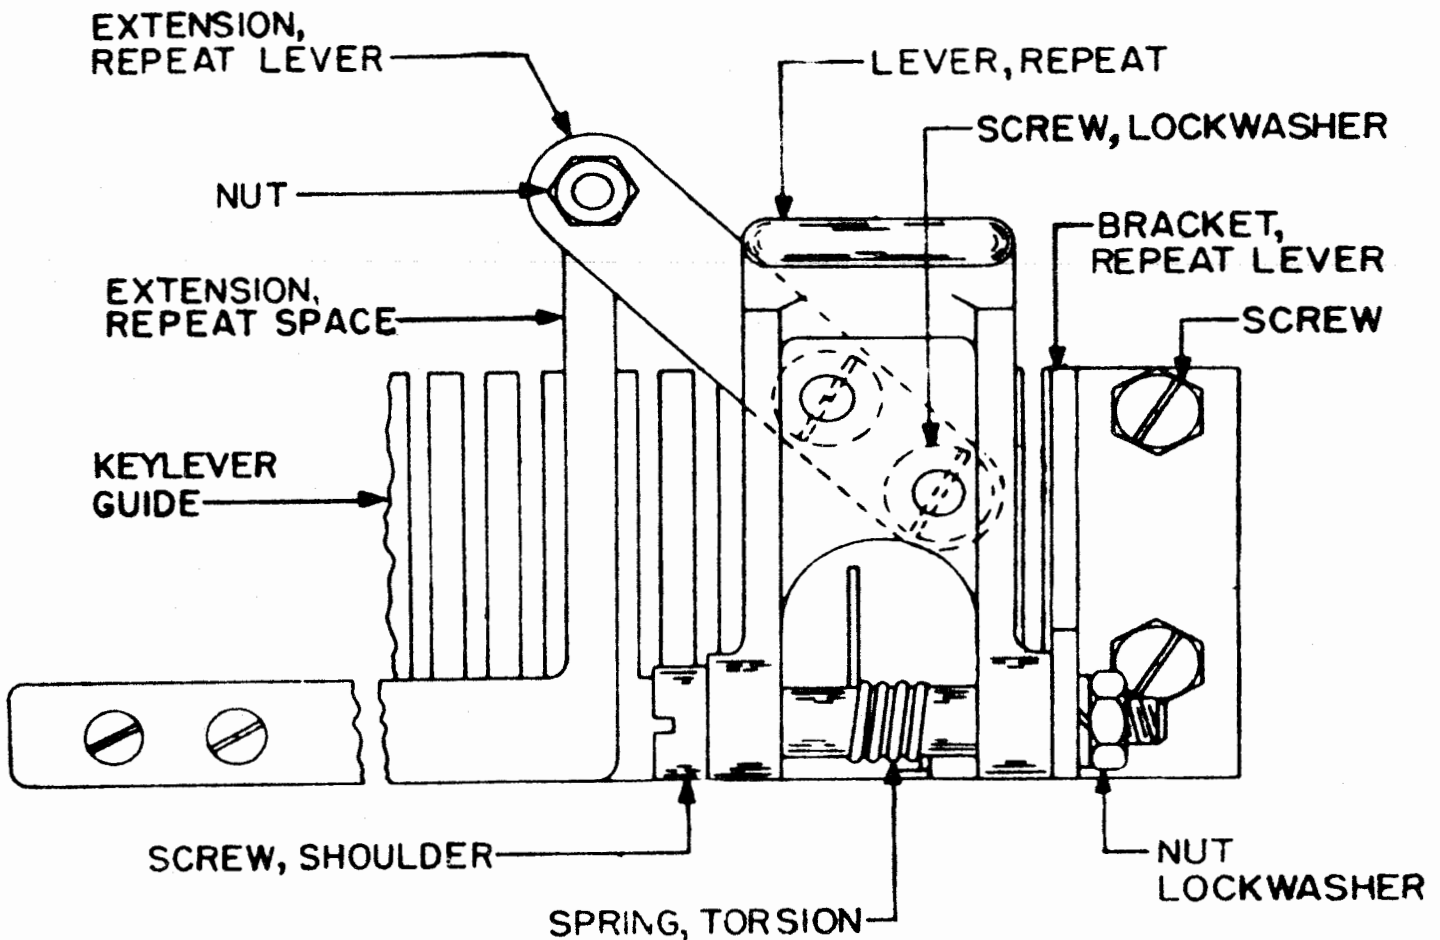

Figure 55
9.01 Repeat-lever Bracket should be parallel to the slots in the keylever guide. See Figure 55.
9.02 Repeat-space Extension: (See Figure 55)
9.04 Torsion Spring should hold the repeat keylever against its backstop with minimum 1/2 ounce pressure. See Figure 55.